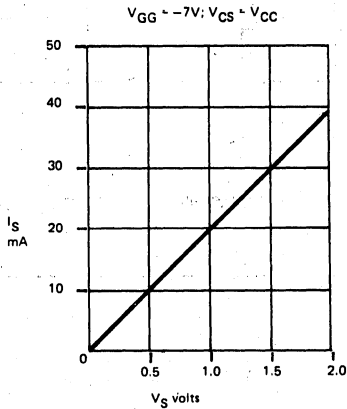

**Fig. 9**
- See also Typical 7-Segment Output Curves, Figs. 9, 11, & 13 (-12V ±1V)